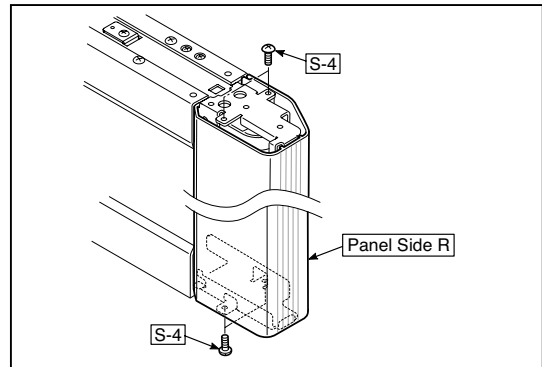

Fig.11
5) Remove the Panel Side R. (See Fig. 11)
1. Remove the "S-4" screws shown in the figure 11 and then remove the Panel Side R.